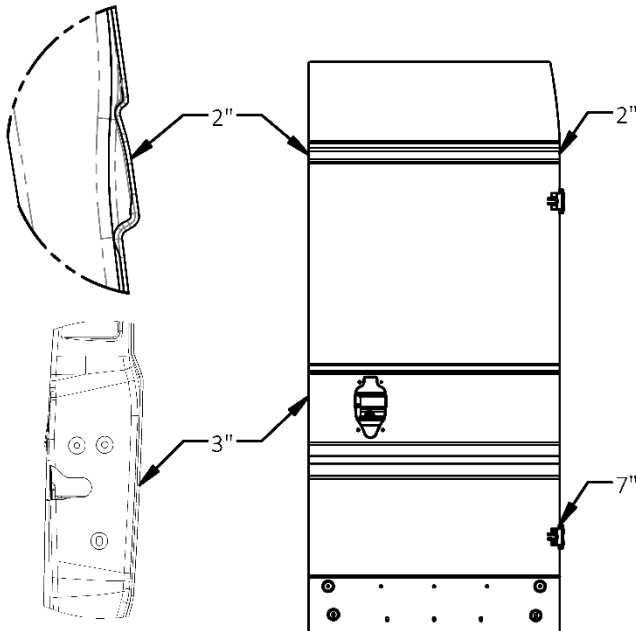

Figure 1: Protective Tape Location
2. Prepare to apply the protective tape **one at a time** to each location shown on the passenger door in Figure 1,